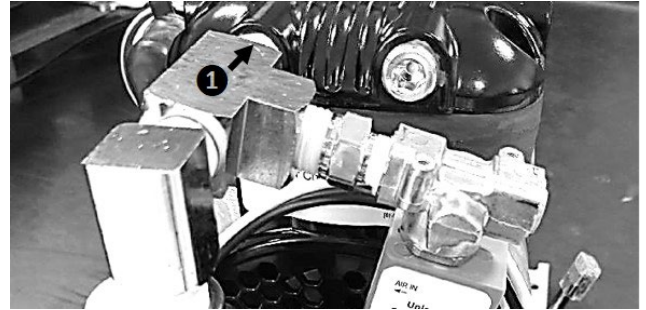

Fig. 10
- 21 Remove the compressor manifold from the compressor at the point highlighted (Fig. 10).